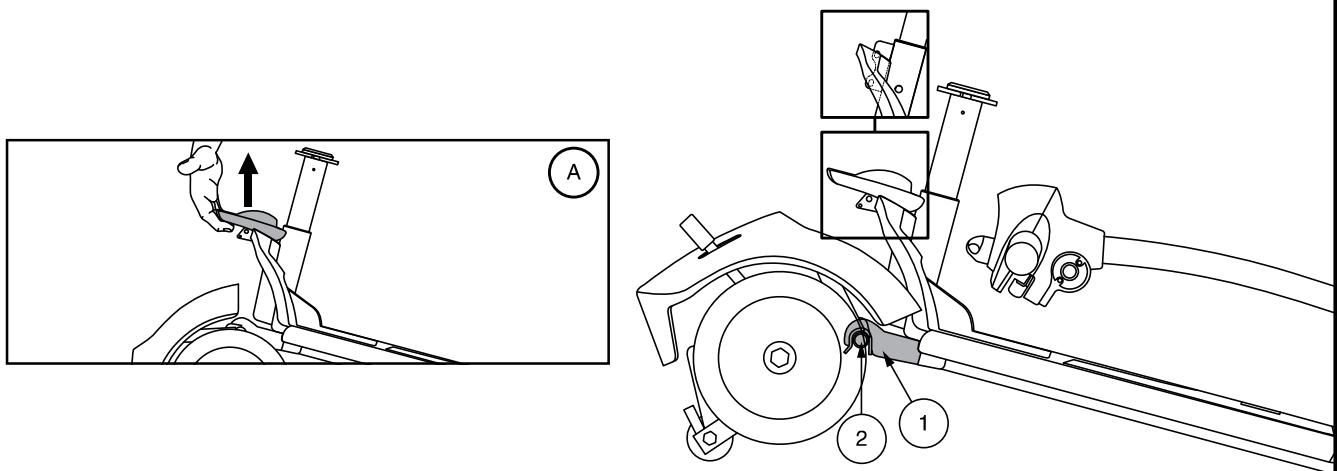

Figure 19. Frame Release Lever (Style A)
3. Slowly separate the two sections of the vehicle. See figure 19.
1. Use the frame release lever to lift the front section as you align the frame hooks of the front section with the lower frame tube of the rear section. See figure 19.
2. Once the frame hooks are over the lower frame tube, lower the front section and pivot the rear section simultaneously. This will engage the frame lock-up automatically. See figure 19.